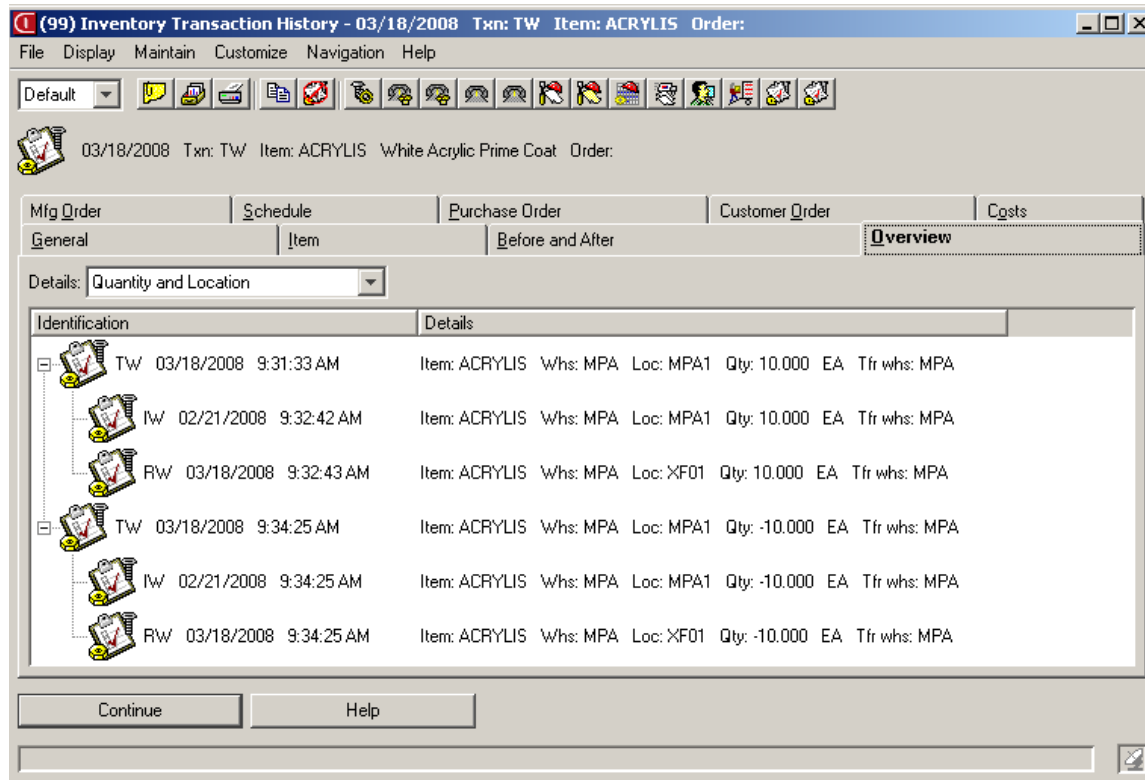

Figure 5-19. Inventory Transaction History - Overview card
Figure 5-19 shows a transfer item (TW) transaction that has been reversed and how it looks in the Inventory Transaction History Overview card.